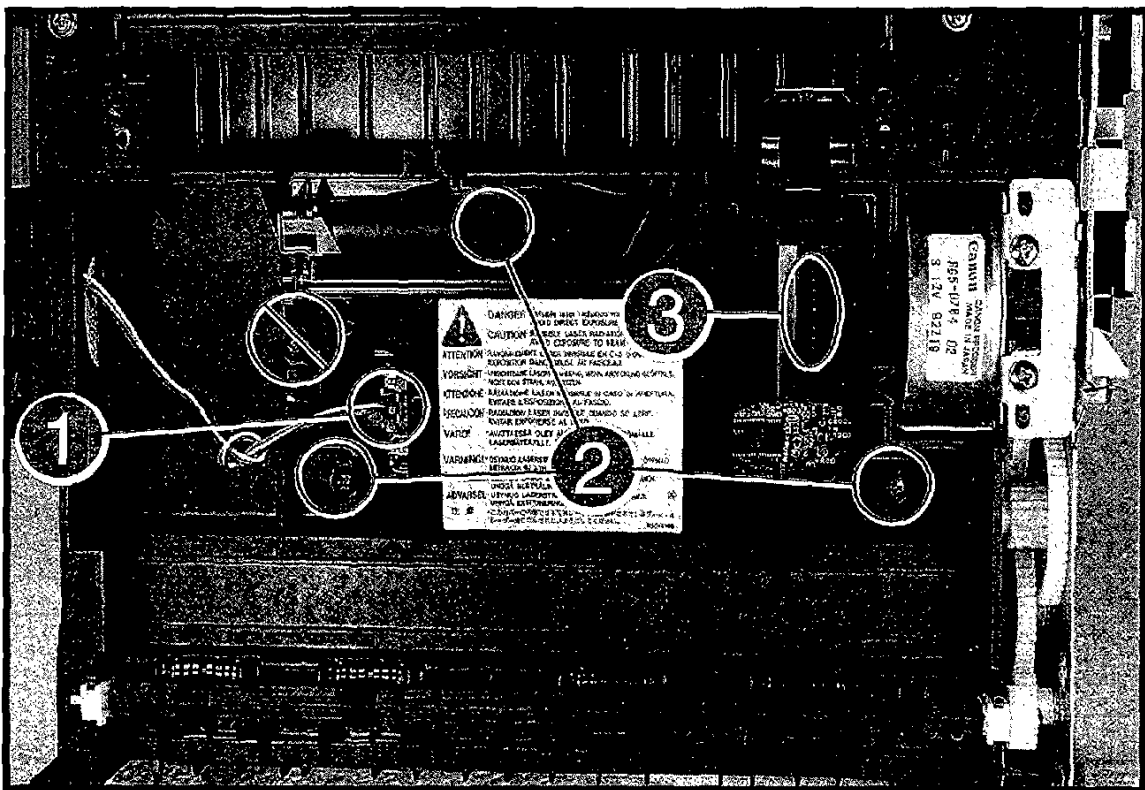

Figure 6-21 Removing the Laser/Scanner Assembly
2. Lift the foam cover and unplug the Fan connector (Figure 6-21, callout 1). (The Fan's power is via the Laser/Scanner Assembly.)
3. Remove the (3) self-tapping screws (Figure 6-21, callout 2).
The uppermost screw in Figure 6-21, callout 2, is under a protective light shutter. Do not remove the scanner cover screw (crossed circle in Figure 6-21). There are no field replaceable parts inside the Laser/Scanner Assembly.
4. Lift the Laser/Scanner Assembly at both ends to remove (there may be some connection resistance - Figure 6-21, callout 3).
2. Lift the foam cover and unplug the Fan connector from the Laser/Scanner Assembly (Figure 6-21, callout 1).